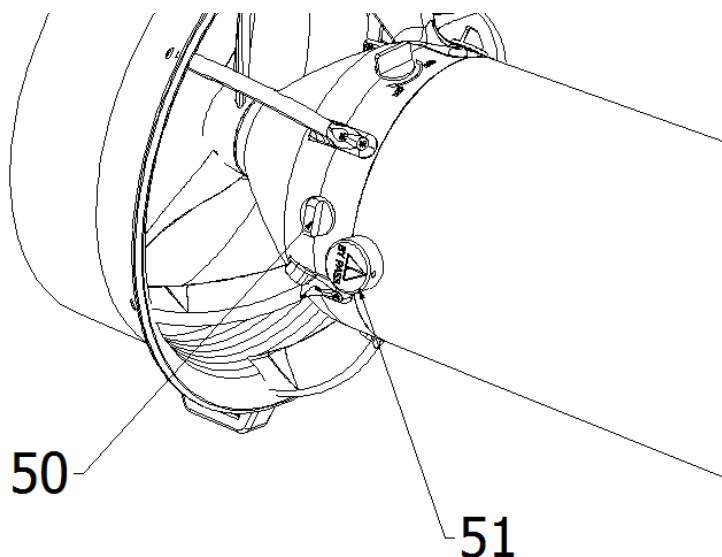

Figure 13
The BY PASS device is recognizable as a white knob (50) (see fig.13) located on the left side of the motor unit, exactly opposite the main switch, creates a direct electrical connection between the battery and electrical motor, by passing any other component usually used for electrical ADV use: trigger, speed regulator, electronic control.
NEVER ROTATE THE BY PASS KNOB (50) (see fig. 13) UNLESS ABSOLUTELY CERTAIN THAT YOU HAVE COMPLETE AND ABSOLUTE CONTROL OF THE ADV. ROTATING THE KNOB WITH THE SWITCH IN THE ON POSITION IMMEDIATELY STARTS THE ADV.
- Fully rotate the By Pass knob (50) (see fig. 13) clockwise without forcing;
- Rotate the main switch (6) clockwise. The ADV starts in continuous mode. If it does not start, the ADV is broken. Abandon or recover it;
- Rotate the main switch (6) counter-clockwise to stop the ADV.
Never remove the special protection click-cap for other reasons. It has always to be in place in order to protect the by pass knob against any accidental activation. (see fig. 13 pos. 51)